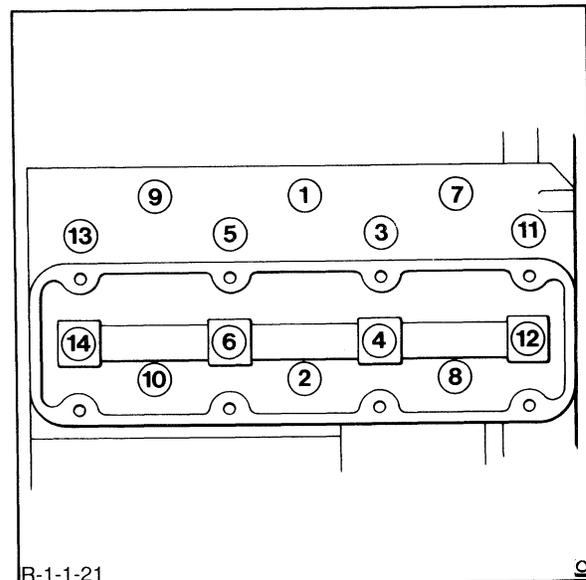

FIGURE 1-20
- Tighten the cylinder head retaining bolts in the sequence shown in Figure 1-20 and progressively in three steps as follows: